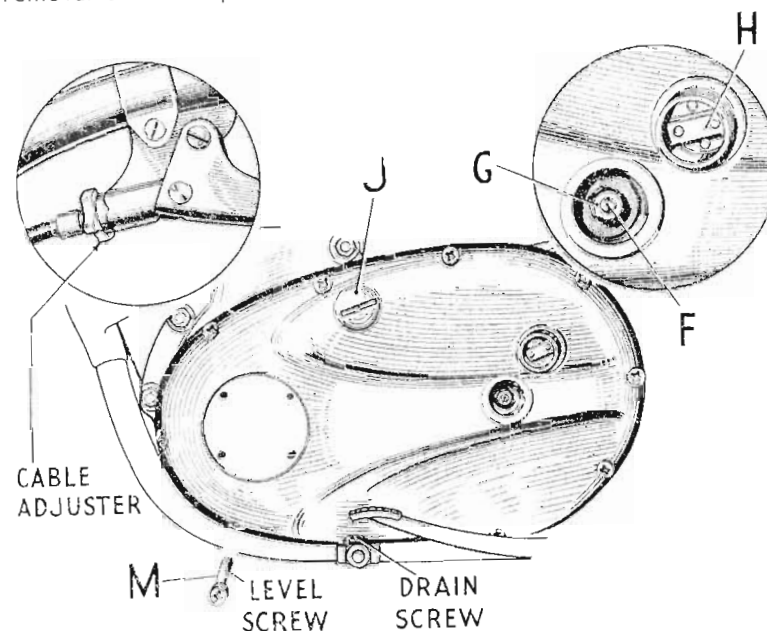

Fig. 15. Clutch adjustment and chaincase oil level.
An adjustable slipper type tensioner is provided for the chain and its slackness can be tested with the fingers through the aperture, after removal of the inspection cap (J) Fig. 15. The chain is in correct adjustment when there is a minimum of $\frac{1}{8}$ in. and a maximum of $\frac{1}{4}$ in. of free play at the midway position between the sprockets.
The main adjustment consists of a screw pin (F) and locknut (G) mounted on the clutch pressure plate. These are accessible after removal of the inspection cover (H) Fig. 15.
The outer cover is retained by screws of three different lengths, and one of these (M) Fig. 15, which is painted red determines the oil level. To replenish with oil, first remove this screw and then the inspection cover at the top of the chaincase. Add oil of the correct grade (see Recommended Lubricants, page 37) and allow to stand until any surplus oil has drained away. Replace the level screw and inspection cap. The machine should be on horizontal ground when this operation is carried out. Note that the screw behind (M) is also painted red and is used for drainage purposes.